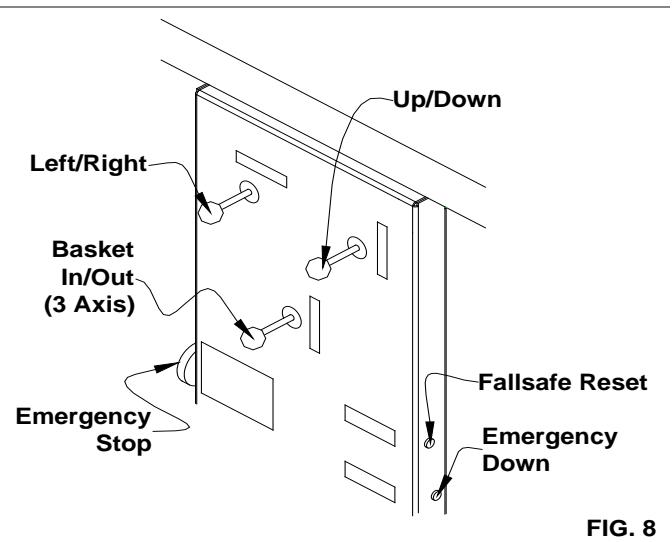

FIG. 8
4. Operating the basket – the lift is very simple to operate. The axis movement is controlled by the respective “joystick” and in the direction of desired travel (see figure 8). When the basket has reached full travel or full stroke, the basket will stop. Likewise, when the basket is fully retracted or lowered, the basket will stop.
- A. **EMERGENCY STOP** – The e-stop is located on the basket control panel & will shut off the air supply to all axis controls. This is a simple push/pull button (red). Push to activate and pull to reset (see figure 8).
- B. **EMERGENCY DOWN** – This control valve allows the basket to be lowered when the main air supply to the lift is interrupted. This control is activated by simply depressing the emergency down button (see figure 8).